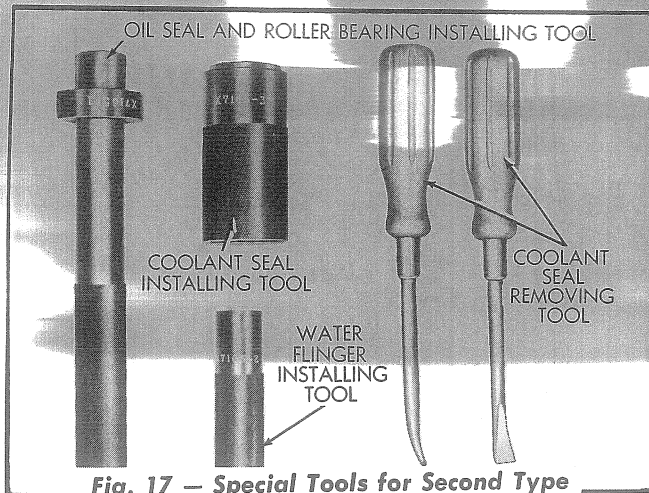

Fig. 17 — Special Tools for Second Type Water Pump
- (3) Using seal removing tools similar to the ones shown in Figs. 17 and 18, pry the seal assembly from its position in the pump body and remove the seal assembly. Remove the water flinger from the shaft.
- (4) Remove the cotter pin, retaining nut, and gear retaining washer from the driving gear end of the water pump shaft. Using a suitable puller, pull the driving gear from the pump shaft and remove the key from the shaft.
- (5) Remove the bearing retainer snap ring from the threaded bearing retainer. Turn the bearing retainer out of the pump body.
- (1) Install the oil seal and roller bearing in their respective bores through the gear end of the pump body, using a tool similar to the one shown in Figs. 17 and 18. **IMPORTANT:** When installing the oil seal, make certain the sealing lip of the seal is directed toward the gear end of the pump body.
- (2) Install the roller bearing retaining snap ring in its groove in the pump body. Lubricate the roller bearing with clean oil.
- (3) Install the ball bearing on the shaft making certain it is pressed against the shoulder on the shaft. Lubricate the ball bearing with clean oil and install the shaft and bearing assembly into the pump body.
- (4) Screw the threaded bearing retainer into the pump body until the hole in the retainer is aligned with the hole in the body for the retainer snap ring and install the retainer snap ring.
- (5) Install the shaft key in the driving gear end of the pump shaft. Install the driving gear, gear retaining washer, and retaining nut and tighten the nut to 50 lbs. ft. torque. Secure with the cotter pin.
- (6) Start a new water flinger on the shaft, with the flanged end next to the oil seal. Install the water flinger so that the flanged end is located $2\frac{7}{16}$ " from the rear end (impeller end) of the pump shaft. The special tool shown in Fig. 17 is available for this operation and is bored the proper depth to locate the flinger at the correct position on the shaft.
- (7) Install the coolant seal assembly in position on the impeller end of the shaft and using a special tool similar to the one shown in Figs. 17 and 18, drive the coolant seal into its bore in the pump body, using care to prevent damage to the seal assembly. **NOTE: Coat the brass lip on the outside diameter of the seal with a small amount of sealing compound before installing.**
- (8) If the original impeller is to be re-used, install the impeller as follows: